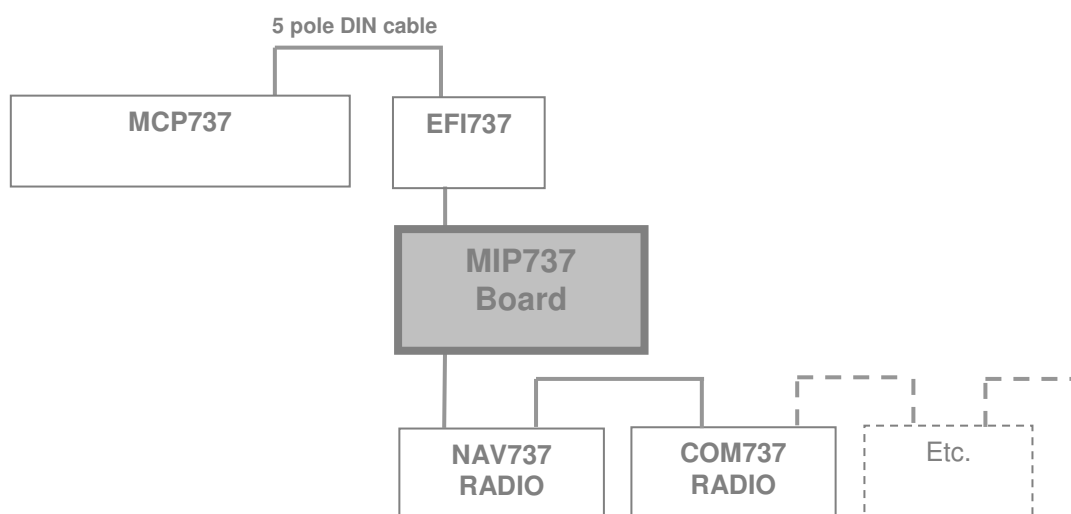
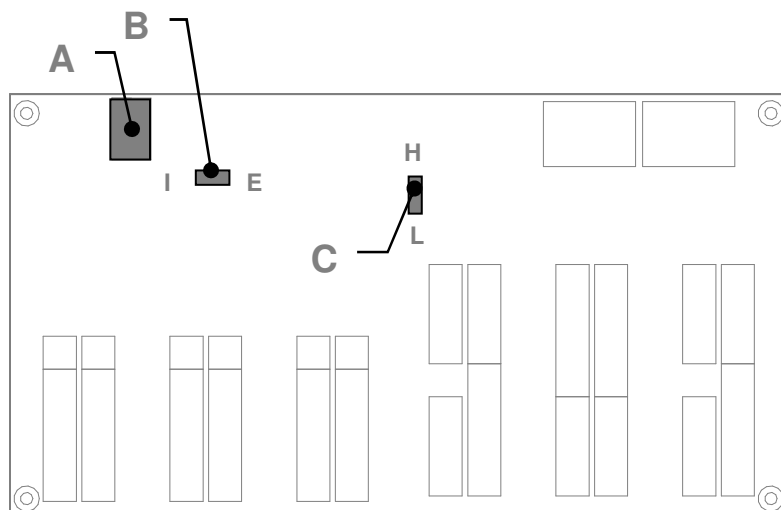

Figure 2 Daisy-chain structure
Figure 3
It is not relevant the sequence in the daisy-chain modules connection. Each module has two 5 pole plugs, one cable is connected to the previous module and the second plug allows connecting the successive one. The MCP only have a single 5 pole connector as it function as a Master and manage signals for all other modules (see Figure 2).
The board LED outputs can be configured for two different levels (Figure 3 jumper "C"). If you insert the jumper "C" in the lower position (L) the output current is settled to ~5mA; if you insert the jumper "C" in the upper position (H) the LED's current is increased to ~10mA (considering 2V drop LED's).
Referring to the below Figure 2 if you insert the jumper "B" to the Right (E) the power comes directly from the MCP737 through the daisy-chain (default setting). If you insert the jumper "B" to the Left (I) the power comes from the supply plug (Figure 3 "A").